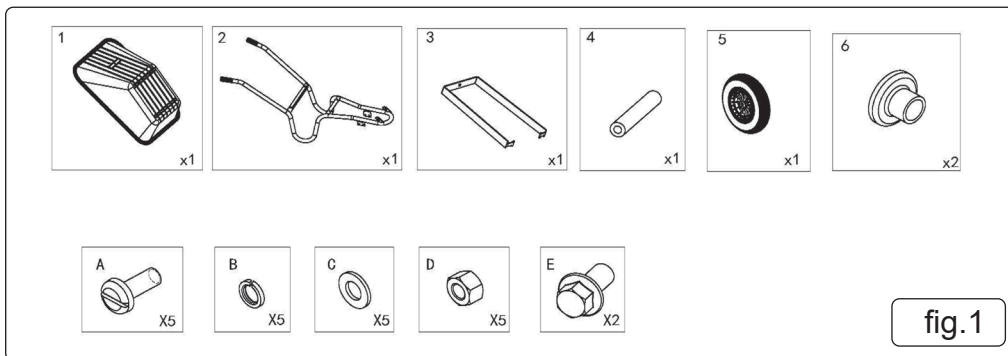

fig.1
- 5.2.2. Place plastic caps (fig.1.6) onto wheel hub centres and engage bolt and washer arrangement (fig.1.E) in shaft. Tighten bolts to secure in place
- 5.3.2. Pass screws (fig.1. A) from inside the pan, through the frame fixing holes, and engage plain washer, spring washer and nut pack (fig.1.D / B / C) on outside.
- 5.4.2. Pass the screw (fig.1.A) through the pan from the inside to the outside and engage plain washer, spring washer and nut pack (fig.1.D / B / C).